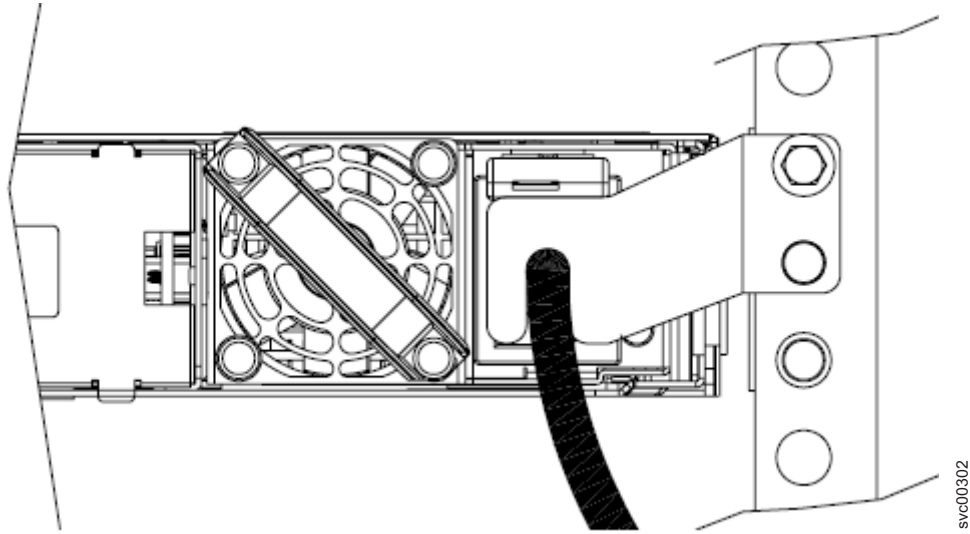

Figure 13. The SAN Volume Controller 2145-8G4 with cable retention bracket type B attached
1. Remove the securing bolt from the node side rail (shown in Figure 13 on page 28) next to the power supply.